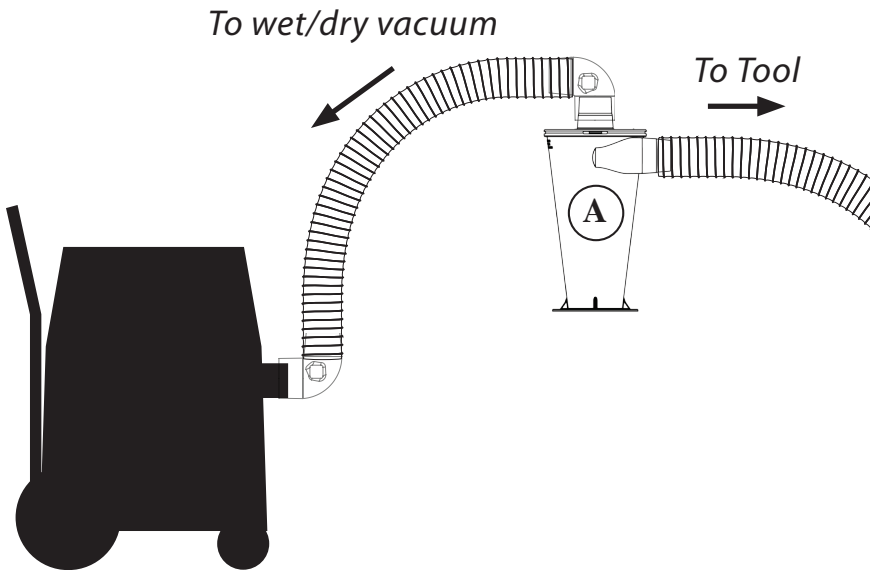

FIG. 4
Connect the Cyclone's (A) inlet (sideways facing port) to your dust producing tool with your vacuum's hose or ductwork. Connect Cyclone's outlet (upwards facing port) to your vacuum [FIG. 4] with hose or ductwork.